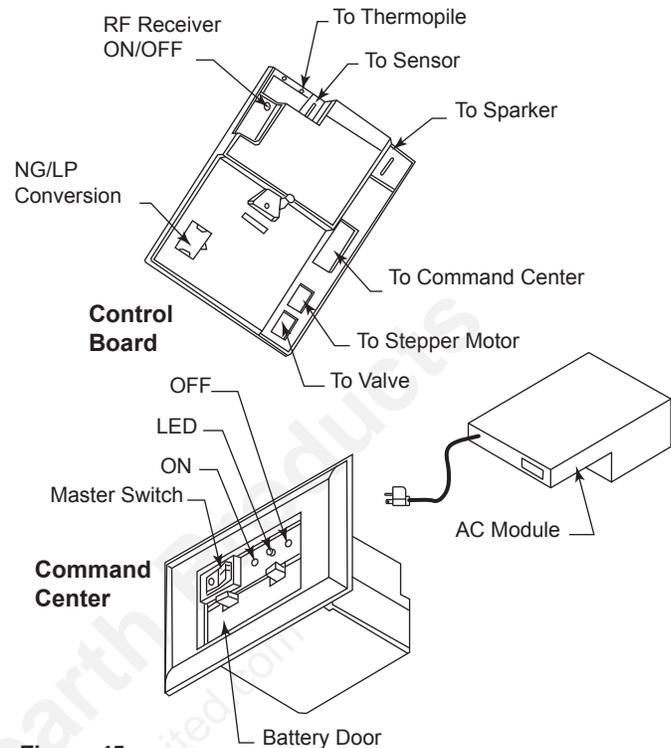

Figure 45 - Signature Command System Components
1. The RF receiver button located on the Control Board must be in the on position before the learn function can begin. Use paper clip to depress button. One beep for RF receiver ON or two beeps for RF receiver OFF will be given as confirmation. Refer to *Figure 45* for location.